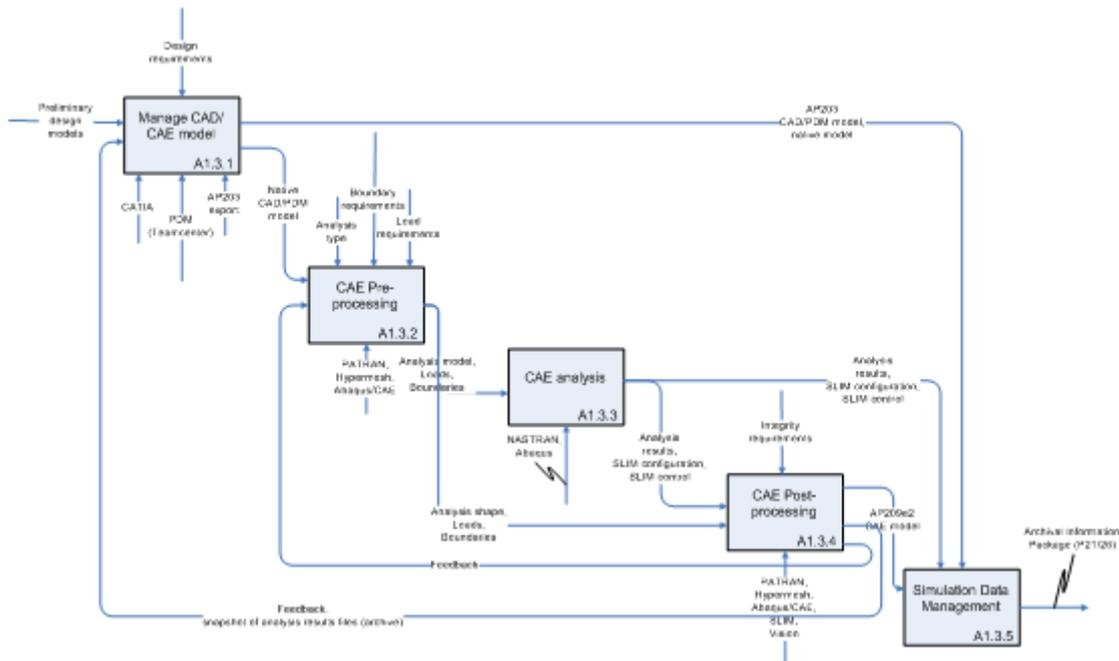

Figure 1: Process diagram - Management of data on an active program
Figure 1 shows a diagram of a product development process with focus on design and analysis. The EDMopenSimDM product can be used in all these steps.
The person responsible for data management will in A1.3.1 (Figure 1) either import a CAD Product Structure (PS), or create a PS suitable for managing the data files in the simulation process, providing a structure to organize the associated CAD and CAE files. These Product Structures may be quite cursory and just enough to organize the simulation models.
In process steps A1.3.1 through A1.3.4 (Figure 1) the user will import models into the EDMopenSimDM database and will manage the CAD and CAE files within it. These functions treat the files as separate independent units. As a part of the import process the CAD models and CAE simulations will be linked to Product Structures (PS).